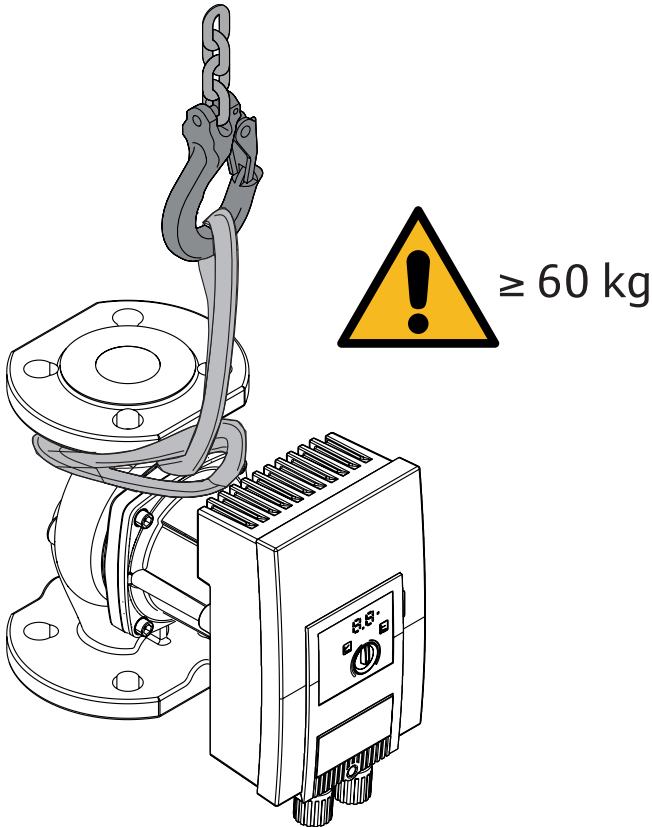

Fig. 3: Transport
- Only carry by motor or pump housing → Fig. 3.